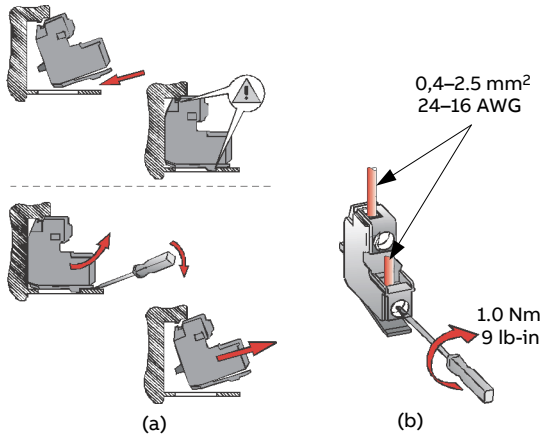
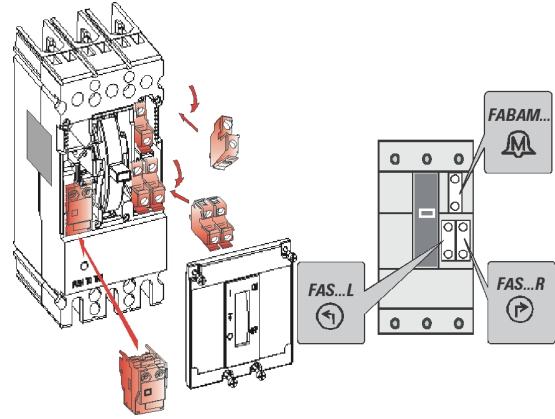
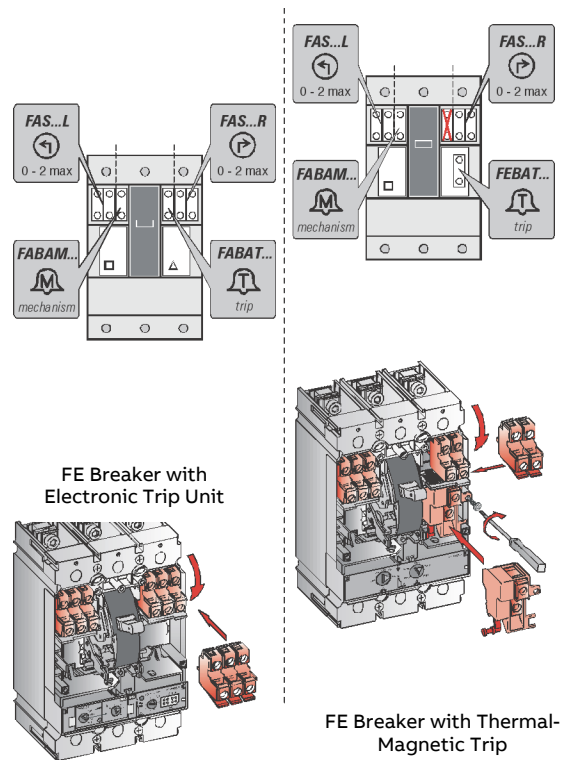
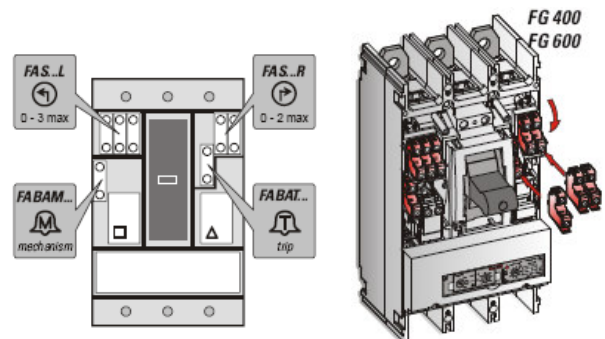

Figure 4. (a) Installing and removing a snap-fit accessory.
Figure 5. Accessory locations in FB/FC circuit breakers.
Figure 6. Accessory locations in FE circuit breakers.
Figure 7. Accessory locations in FG circuit breakers.
2. Each switch snaps into place in its designated pocket, as shown in Figure 4(a). It can also be easily removed with the aid of a small screwdriver, as shown. The proper pockets for each device are illustrated in Figure 5 for FB/FC breakers, in Figure 6 for FE breakers and in Figure 7 for FG breakers. Each breaker pocket is clearly marked with the symbol for the device that it accepts.
3. If the accessory was not factory wired, connect the wires to the lugs on the accessory, as shown in Figure 4(b). For screw-type terminals, the recommended wire size is #24–16 AWG (0,4–2,5 mm²), with 600-V insulation, and a maximum diameter of 0.100 in. (2.54 mm). Tighten the terminals to 11 lb-in (1.2 Nm).